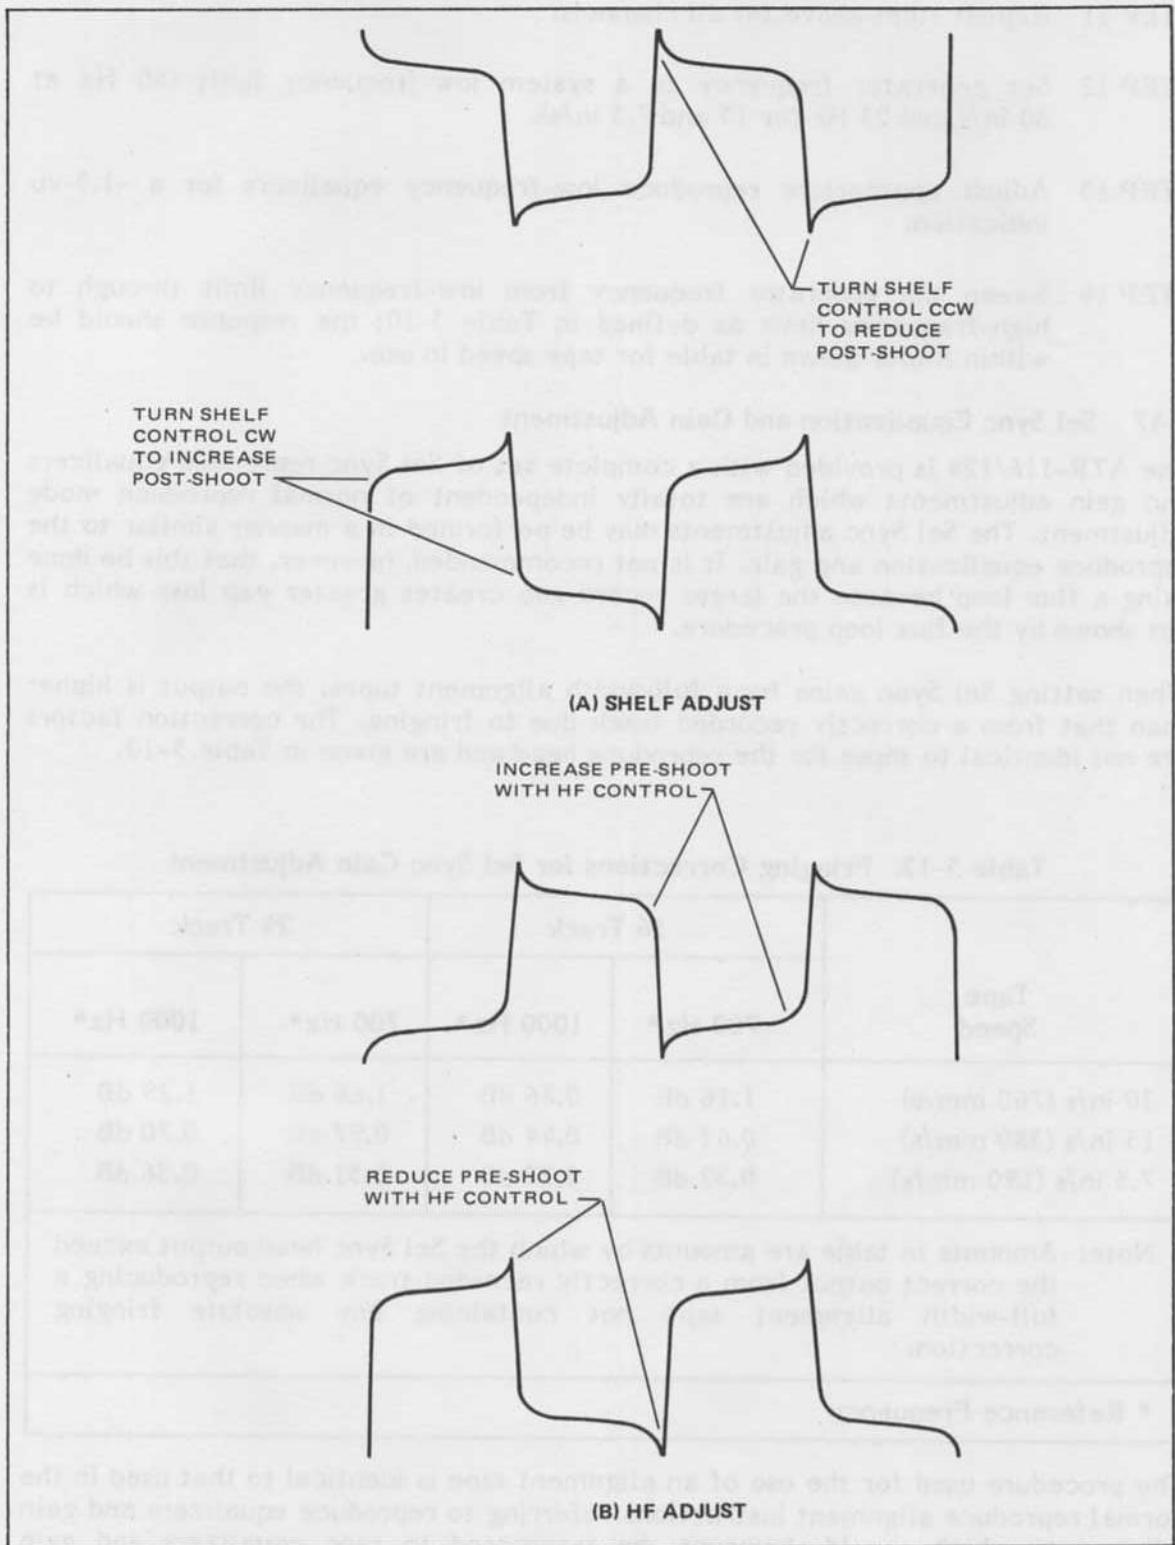

Figure 5-22. Square Wave Pre-Shoot and Post-Shoot
- STEP 7 Adjust appropriate record HF and shelf equalizers for selected equalization to obtain an identical square wave on selected channel as a reference channel. Particular attention should be directed to pre- and post-shoot on leading and trailing edges. Figure 5-22 shows the effect of adjustment of record HF and shelf equalizers on the reproduced square wave. Note that any minor interaction effects can be readily seen.